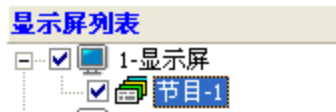

Figure 3-15
- ◆ general program  :click the program button, add new program in the current screen, as shown in figure 3-15,set the program attributes as your require. More details about program attributes setting ,please check in “4.2 program attributes”